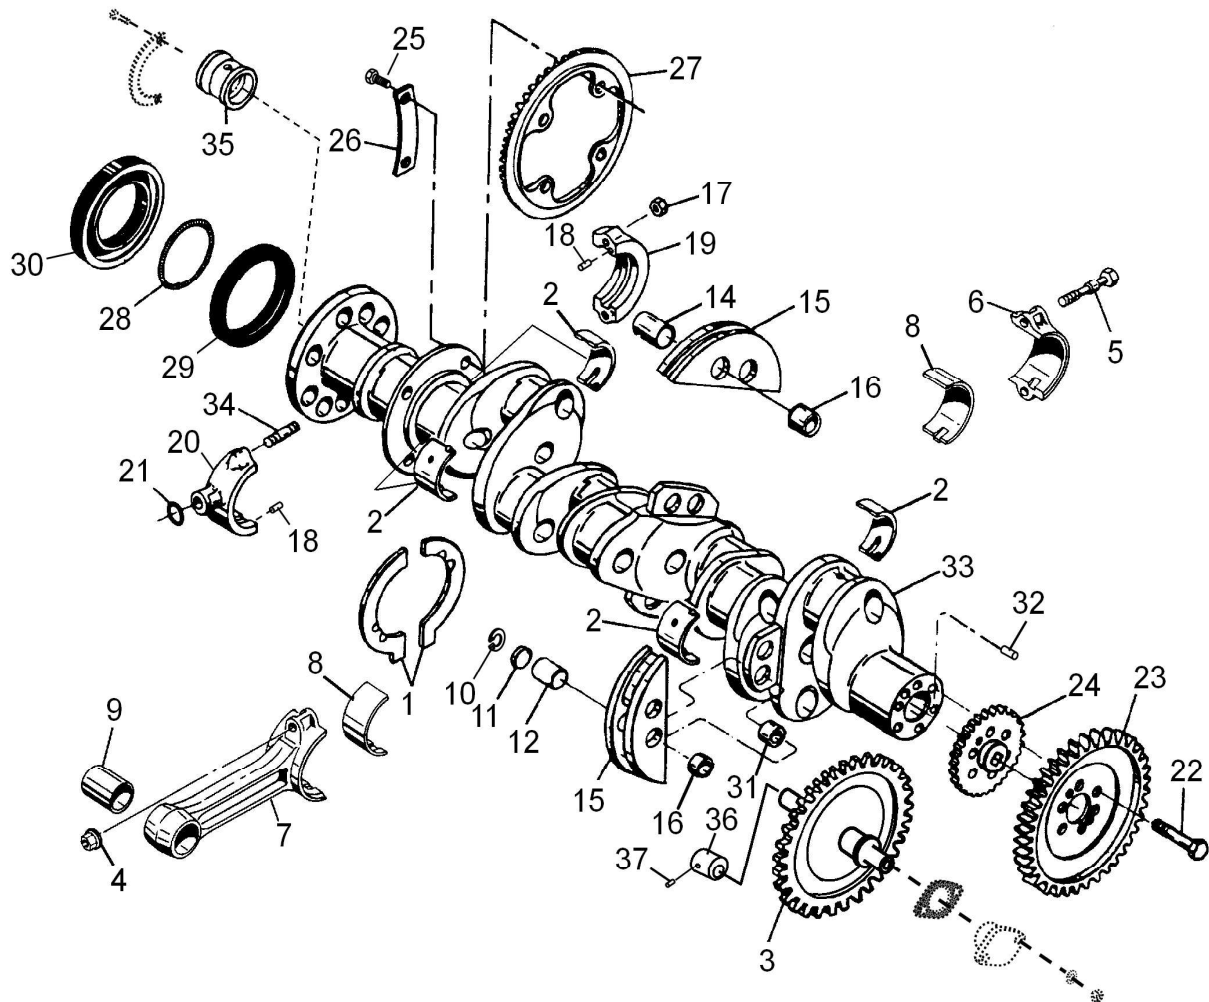

Figure 17-2. Crankshaft Assembly
8. Install new crankshaft main bearings (Figure 17-2) (2) in the bearing saddles on both crankcase halves. Do not lubricate the crankshaft bearing saddles, lubricate only the crankshaft side of the main bearings with clean 50-weight aviation engine oil.
9. Install a new O-ring (21) in the oil transfer 2-4-6 side collar (20). Lubricate the O-ring (21) and oil transfer 2-4-6 side collar (20) area and bearing surface thoroughly with clean 50 weight aviation oil.
13. Install new thrust washers (1).
15. Verify the new O-ring (21), new crankshaft main bearings (2), and new thrust washers (1) are seated properly.